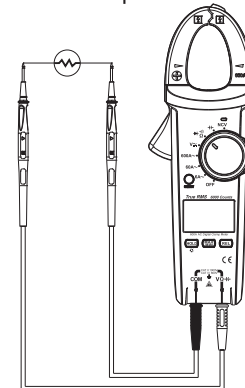

Figure 7
5. Continuity test (see Figure 7)